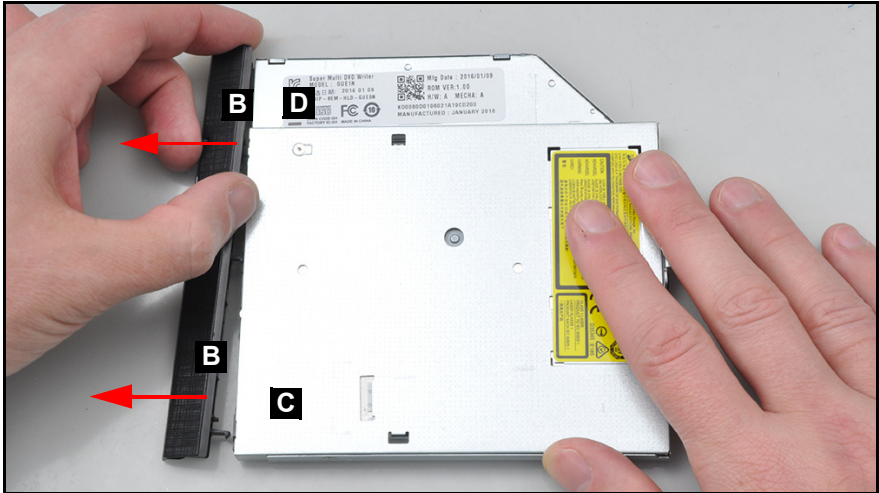

Figure 3-5. ODD Bezel Removal
3. Remove the ODD bezel (B) from the ODD tray by first prying from the right side (C) of the ODD tray, and then prying from the left side (D) (Figure 3-5).